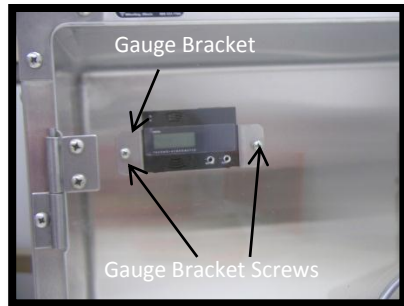

Figure 21: Front View of the New-style Gauge (mounted on door)
The original gauge was a square, analog-type instrument. This gauge is no longer available, and has been replaced by a smaller, more modern, digital instrument (Figure 21).
2. With a Phillips screwdriver and a 3/8 in. wrench, remove the two gauge bracket screws/nuts (Figure 21).